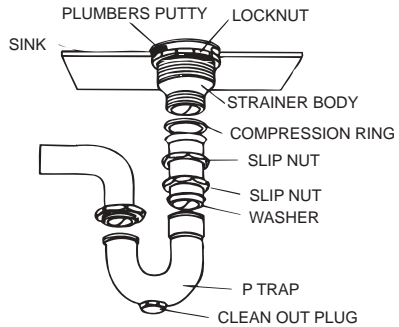

Figure 4
10. Connect the drain tailpiece to the bottom of the pop-up, then fasten the trap and drain extension to the wall stub-out in the wall. **See Figure 4.** You may use metal or plastic drain pipe and trap, following the directions provided by the manufacturer.